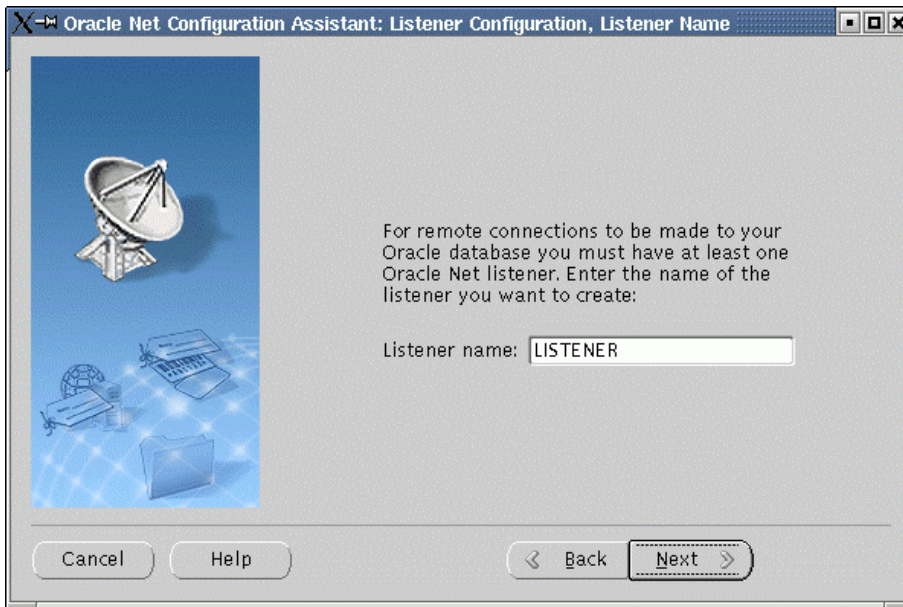

Figure 71. netca - listener name
- The next screen (Figure 71) asks for the listener name. Type in LISTENER as shown and click **Next** to continue.